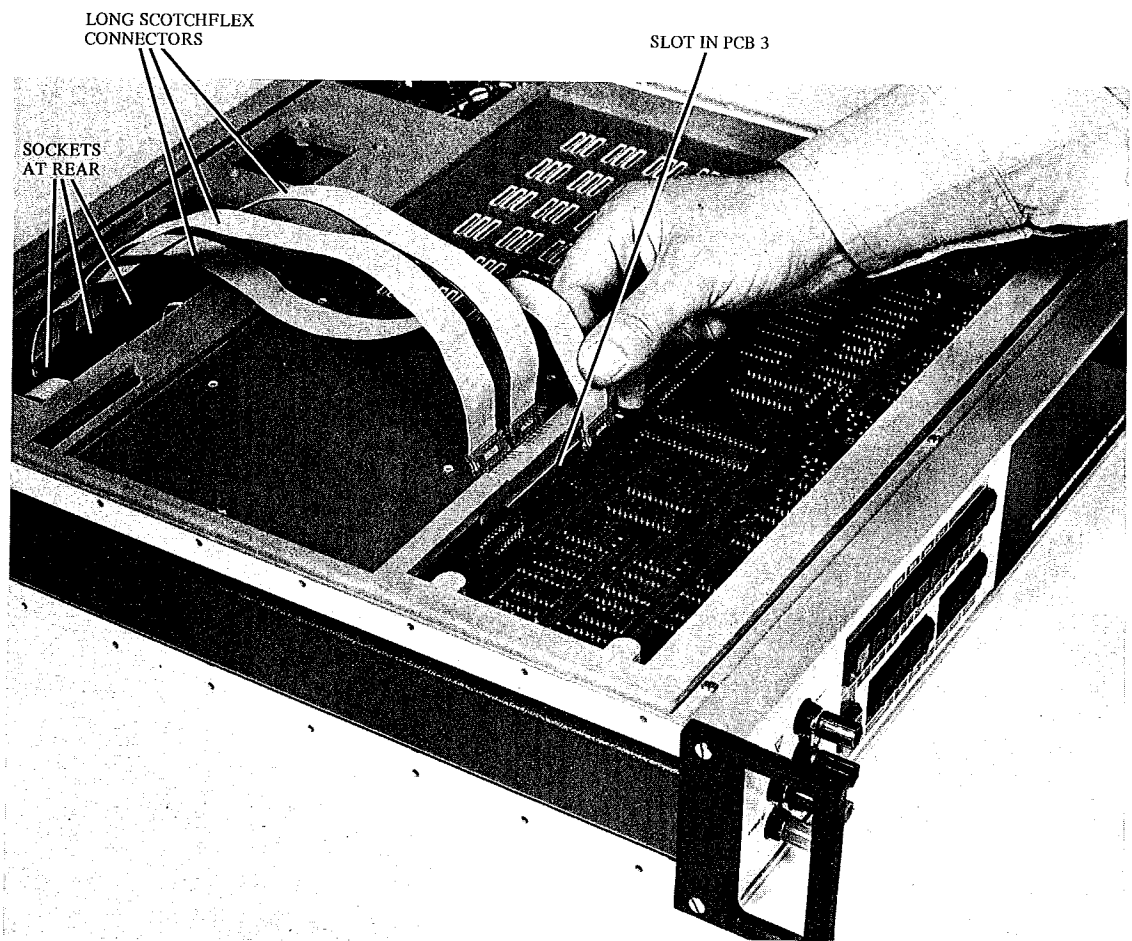

Fig. 3 Fitting the long Scotchflex connectors
6. Fit the 3 long Scotchflex connectors to the 3 sockets in pcb at rear of the instrument (Fig. 3) unless these are already fitted with pcb 4. The connectors should pass underneath the instrument and up through the slot provided in pcb 3.